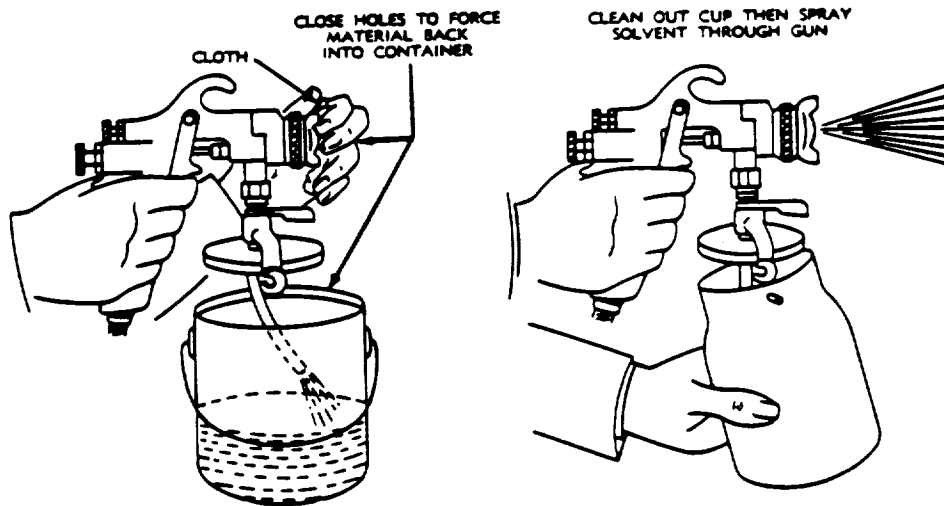

Figure 5-10. Spray Gun Cleaning
b. Suction Cup Type. Remove the cup, keeping the fluid stem inside the cup or container, as shown in figure 5-10, then hold a cloth over the air cap and pull the trigger. This directs air into the fluid passageways, and blows any paint that may be in the gun back into the container. After cleaning out the cup, clean the gun by spraying a small amount of clean naphtha or thinner through it. Extreme care should be exercised in the removal of the fluid top so as not to split the tip or otherwise injure it or the fluid needle. When loosening the fluid tip, the trigger of the gun should be compressed so that the needle is not in contact with the tip; this eliminates the possibility of splitting the tip due to friction or sticking that is caused by dried paint. The entire spray gun should never be immersed in naphtha or thinner, as this removes lubricants and dries out the packing. Under no circumstances should the air or fluid ports of a gun or nozzle be reamed with any substance harder than soft wood, as a deformation of the spray pattern may result, and the spray gun may be rendered useless. To prevent wear, the working parts of guns should be kept lubricated with light machine oil. This requirement is especially true of the needle. The needle packing should also be kept pliable with an occasional drop of light lubricating oil.